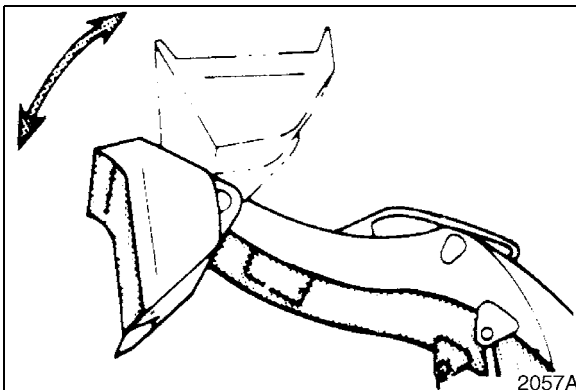
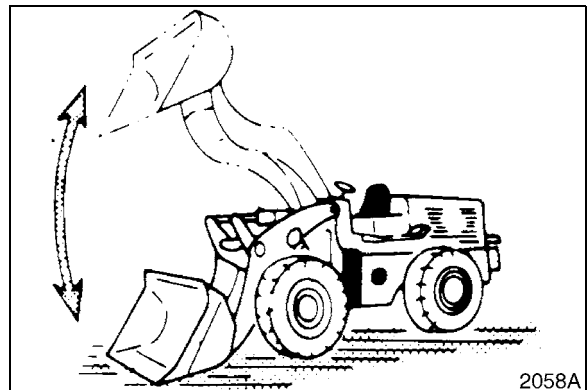

Figure 97
Figure 98
6. Start engine and operate controls to raise and lower bucket a few times. (Figure 97). Raise and lower boom a few times. (Figure 98). Lower bucket to ground.